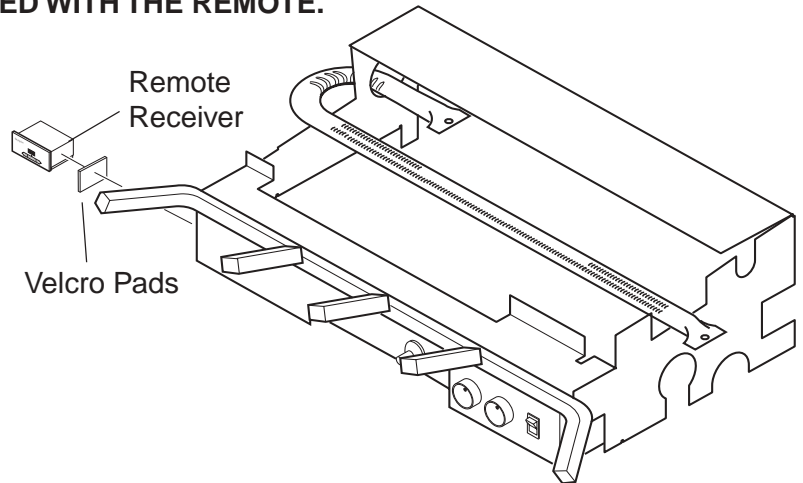

Figure 17 - Installing Remote Receiver
6. Stick velcro pads with self-adhesive backing to bottom of remote receiver and to the left side of the unit. Refer to Figure 17.